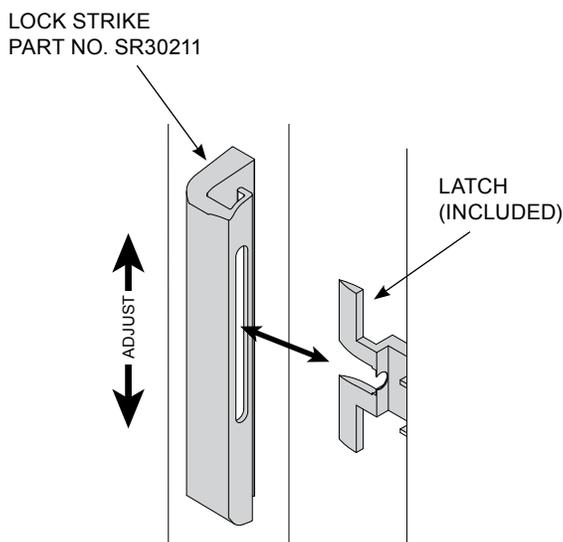

FIG. 38
3. Position lock strike so screen catch moves freely. (FIG. 38)